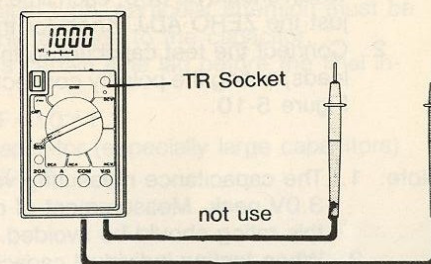

Fig. 5-9 Transistor hFE Test
2. Determine whether the transistor is NPN or PNP and locate the Emitter, Base and Collector Leads. Insert the leads into the correct holes in the socket on the front panel. See Figure 5-9.